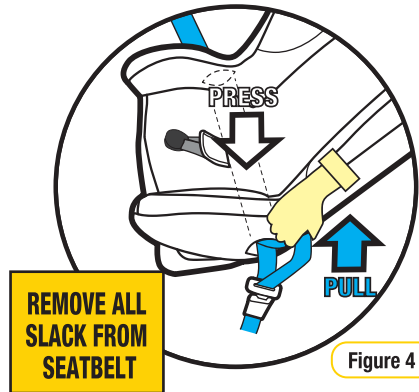

Figure 4
Step 4: Push down on the base of the restraint (with knee or hand) whilst pulling the sash section of the vehicle belt firmly up in direction of the blue arrow in Figure 4. (This will tighten the lap belt across the restraint base).